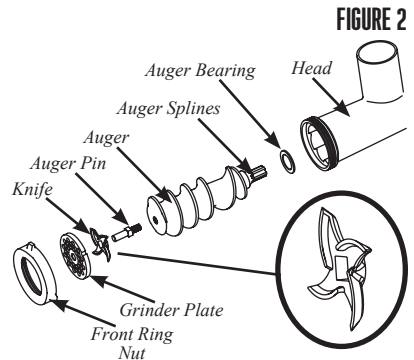

FIGURE 2
3. Insert the Auger, with the Auger Bearing attached into the Head (Figure 2). Align the Auger Splines with the Drive Shaft of the Grinder.
4. Place the Knife onto the square part of the Auger Pin (Figure 2). Be sure the blades of the Knife are facing outward.